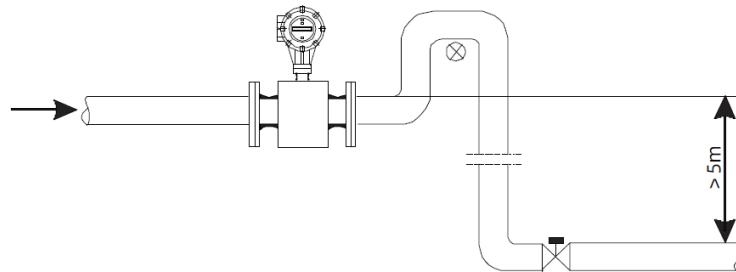

Figure 16
7. Where the pipeline drop exceeds 5 m, an air valve should be installed downstream of the magnetic flow meter, as shown in Figure 16.